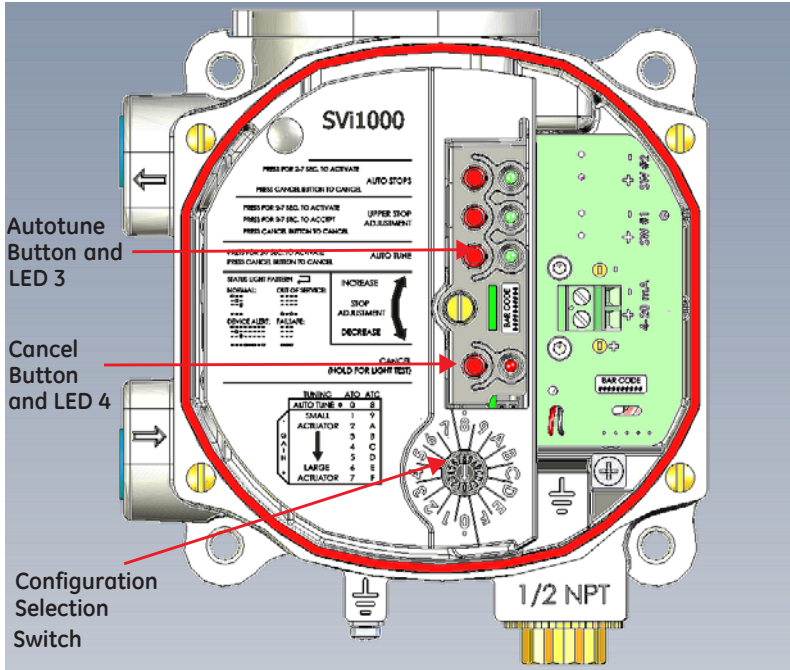

Figure 24 Configuration Selection Switch
1. Set the *Configuration Selector Switch* to the auto tuning parameter (Figure 24):